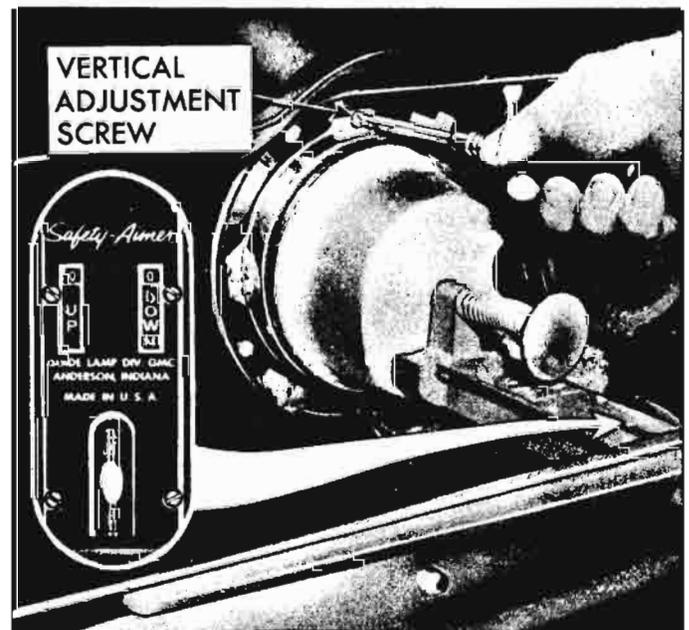

Fig. 8-102—Headlamp Vertical Adjustment
- b. Turn headlamp vertical aim screw (fig. 8-102) on the left-hand unit counterclockwise until the bubble is at the end of the level toward the T-3 unit. Then turn screw clockwise until the bubble is centered.